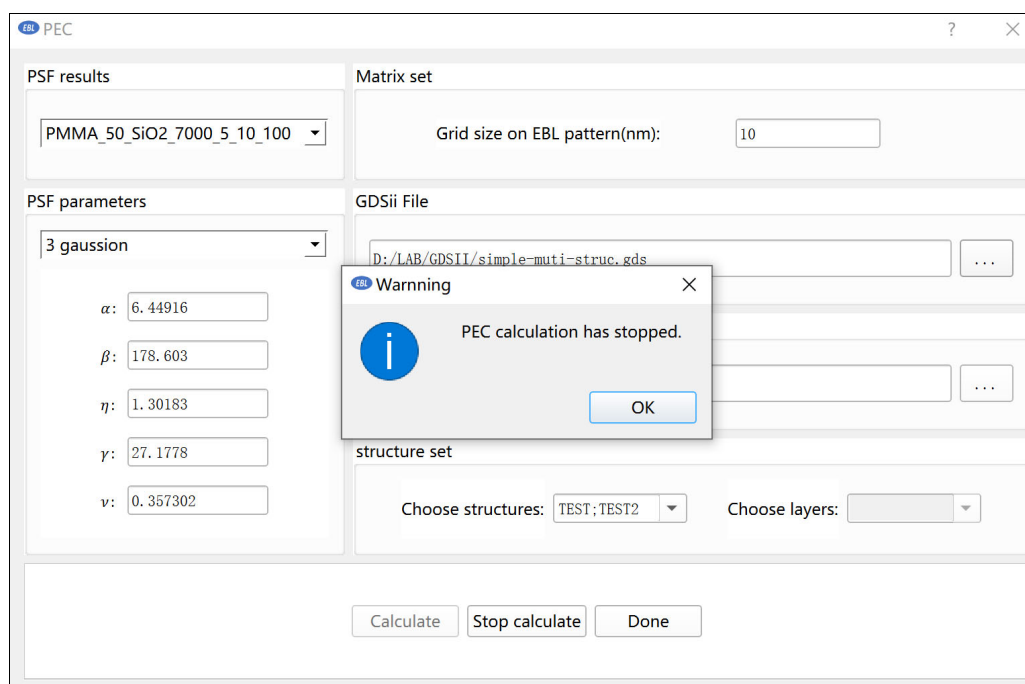

Figure 2.6.5 Stopping PEC
- 9) You can click "Stop Calculation" to stop the current calculation (Figure 2.6.5).